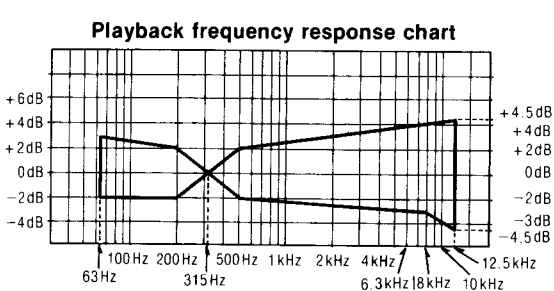

Fig. 8
<p>Playback frequency response</p> <p>Condition: • Playback mode</p> <p>Equipment: • EVM (Electronic Voltmeter) • Oscilloscope • Test tape...QZZCFM</p>	<p>1. Test equipment connection is shown in fig. 2.</p> <p>2. Playback the frequency response portion of test tape (QZZCFM).</p> <p>3. Measure output level at 315Hz, 12.5kHz, 8kHz, 4kHz, 1kHz, 250Hz, 125Hz and 63Hz, and compare each output level with the standard frequency 315Hz, at LINE OUT.</p> <p>4. Make measurements for both channels.</p> <p>5. Make sure that the measured values are within the range specified in the frequency response chart (Shown in fig. 8).</p>
5. Make sure that the measured values are within the range specified in the frequency response chart (Shown in fig. 8).